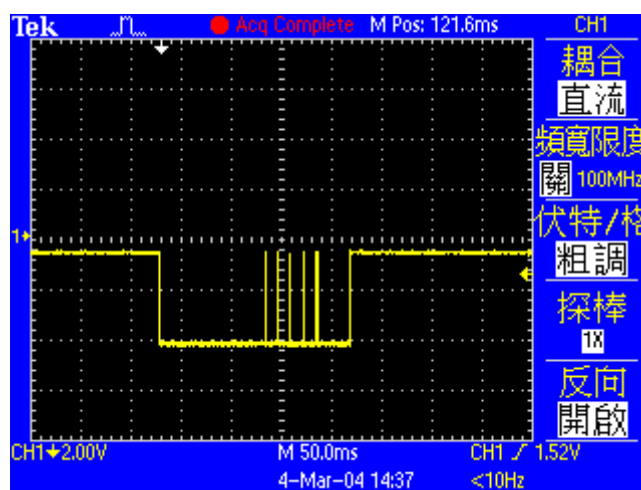
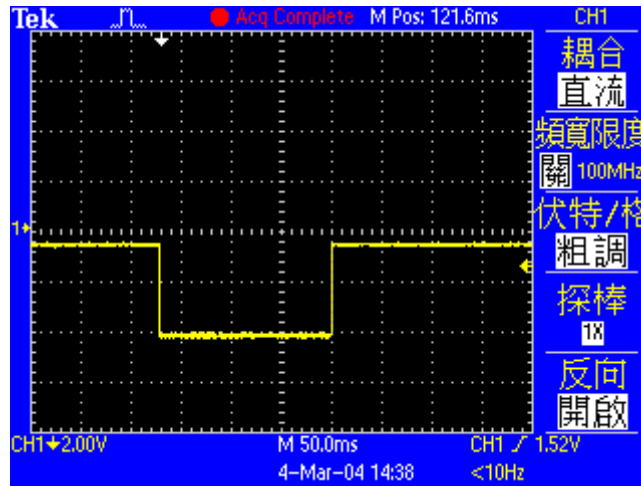

Figure5.6.2 In-position signal at "Debounce time" being 0 ms
Figure5.6.3 In-position signal at “Debounce time” being 3 ms
- (1) After fixing "Target radius" and setting "Debounce time" to 0 ms, let the motor move a distance and observe the "In-Position" signal on the oscilloscope, as shown in figure 5.6.2. When "In-Position" is achieved, the signal is a high level; while when it is not achieved, the signal is a low level. It can be observed from figure 5.6.2, when the motor moves to near the target position, there are six protruding pulses (the latter two are closer). Observing the high-level duration of each protruding pulse, the first one is about 1.5 ms, the second one is about 1.4 ms, the third one is about 1.4 ms, the fourth one is about 1.3 ms, and the fifth one and the sixth one are about 1 ms.
- (2) Observing in figure 5.6.2, the widest protruding pulse is 1.5 ms. So, “Debounce time” can be set to larger than this value. After considering the safety factor, set “Debounce time” to 3 ms. Let the motor move a distance, the “In-Position” signal is shown in figure 5.6.3. The instability of “In-Position” signal is improved.
Click  to appear the window of application center, as shown in figure 5.6.2. The first tab is the homing configuration page of “Homing”.
- (1) Homing mode for incremental encoder
This method is only applicable to homing modes (1) and (2) described above. When “Home Offset” is set to a nonzero value, the home position found in the original condition is offset by a distance. This new position is taken as the coordinate origin, and the motor moves to this origin position. For example, if the left and right conditions are not “None”, the drive will take the position, which is the home position found in the original condition offset by a distance, as the new home position, as shown in figure 5.6.3. If “Home Offset” is positive, the coordinated origin is at the right side of home position found in the original condition; while if it is negative, the coordinated origin is at the left side of home position found in the original condition.
Faster speed	Search at the faster homing speed. Set it in the “Faster Speed” field given in figure 5.6.2.